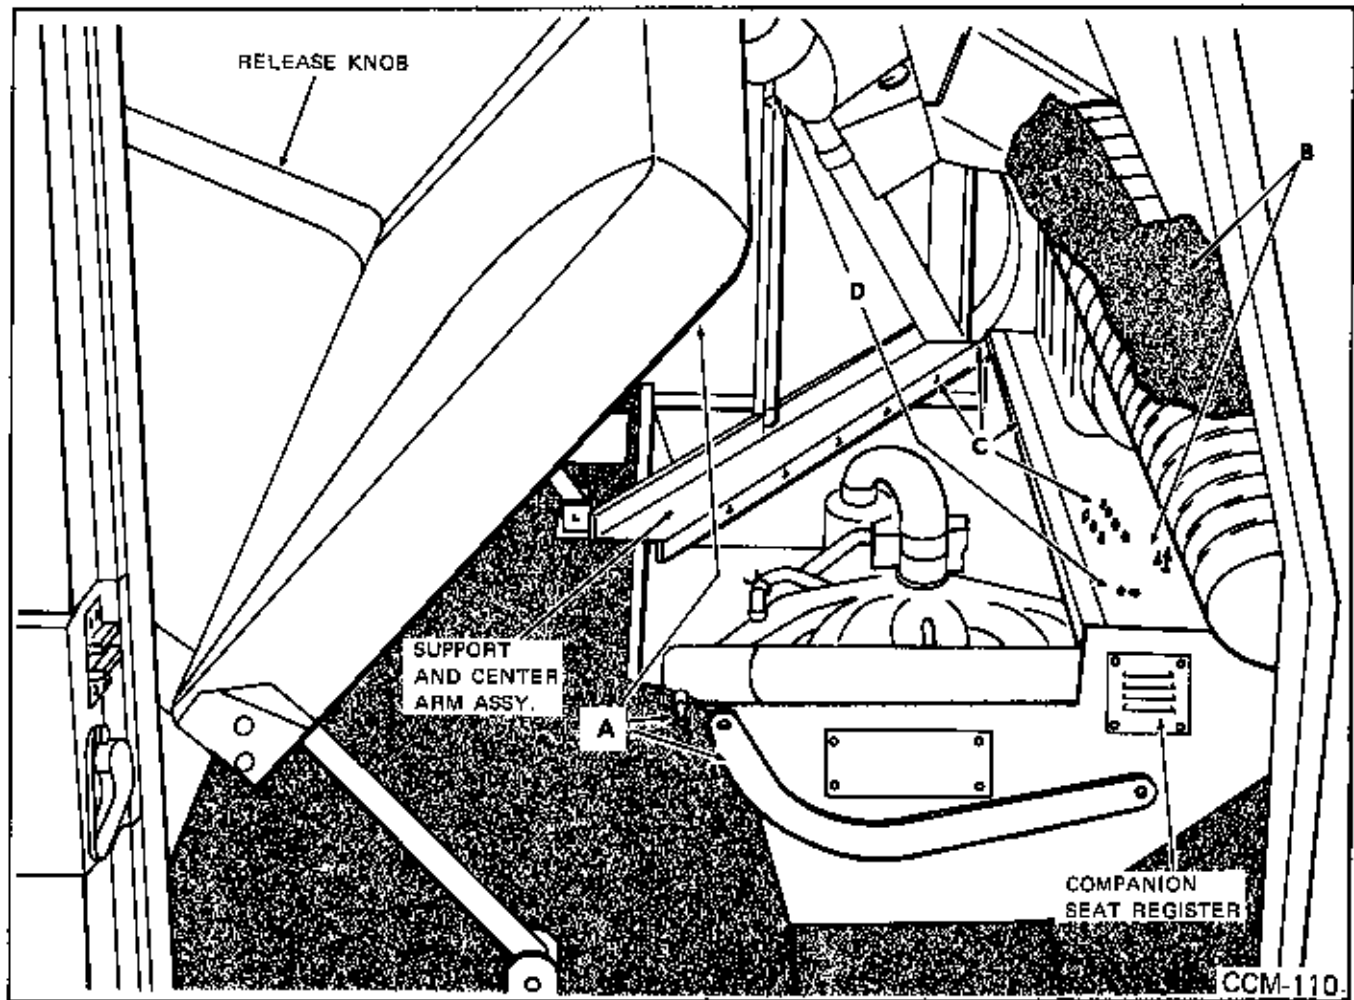

Fig. 105
2. Pull seat release knob and move seat upward as far as possible and then remove seat guide retainer pin (A) from guide and bottom of seat. Swing seat upward. (Fig. 105)
4. Remove screws from support and compartment floor (C). (Fig. 105)
5. Remove nut and lockwasher from the bottom of the center arm (D) and compartment floor. Support may now be removed. (Fig. 105)